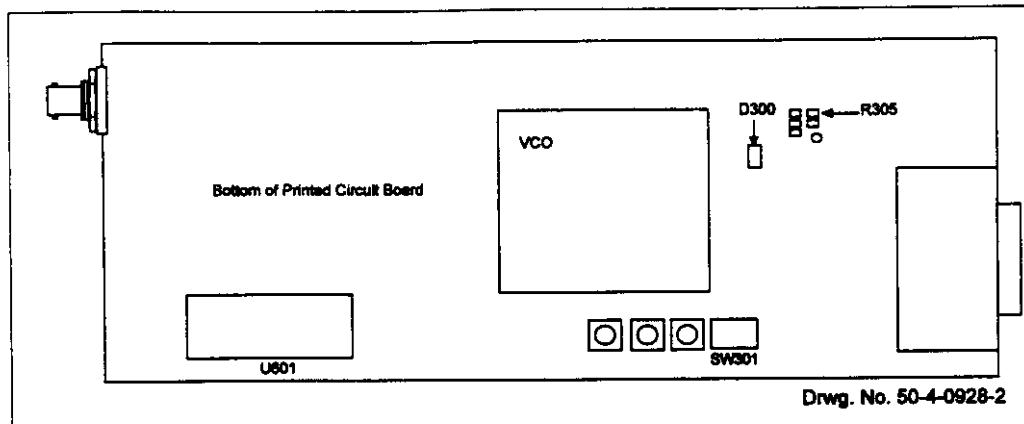

Figure 9.2: Position of Tx module synthesiser increment setting resistor R305
Figure 9.2 shows the location of R305 on the module PCB.
**Note:** The selected transmit frequencies are restricted to those with 5 kHz or 6.25 kHz synthesiser increments. If R305 is fitted to the module PCB, the synthesiser step size will be 5 kHz, otherwise the synthesiser step size is 6.25 kHz (default). Figure 9.2 shows the location of R305 on the module PCB.